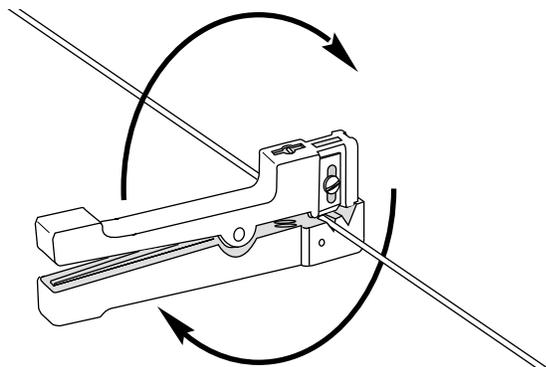

Figure 34
- c) Use your other hand to rotate the tool around the buffer tube two to three complete turns to score it (Figure 34). Remove the tool from the buffer tube.